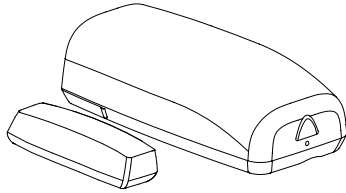

Figure 1: 1101 Housing
1. Push the button on the end of the 1101 and separate the two halves. See Figure 1.